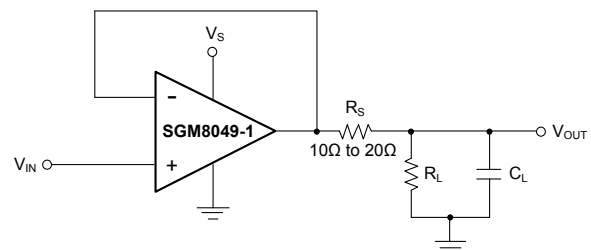

Figure 3. Series Resistor in Unity-Gain Buffer Configuration Improves Capacitive Load Drive
Follower configurations with load capacitance in excess of 30pF can produce extra overshoot and ringing in the output signal. Increasing the gain enhances the ability of the amplifier to drive greater capacitive loads. In unity-gain configurations, capacitive load drive can be improved by inserting a small (10Ω to 20Ω) resistor, R_S , in series with the output, as shown in Figure 3. This resistor significantly reduces ringing while maintaining direct current (DC) performance for purely capacitive loads. However, if there is a resistive load in parallel with the capacitive load, a voltage divider is created, introducing a DC error at the output and slightly reducing the output swing. The error introduced is proportional to the ratio R_S/R_L , and is generally negligible.